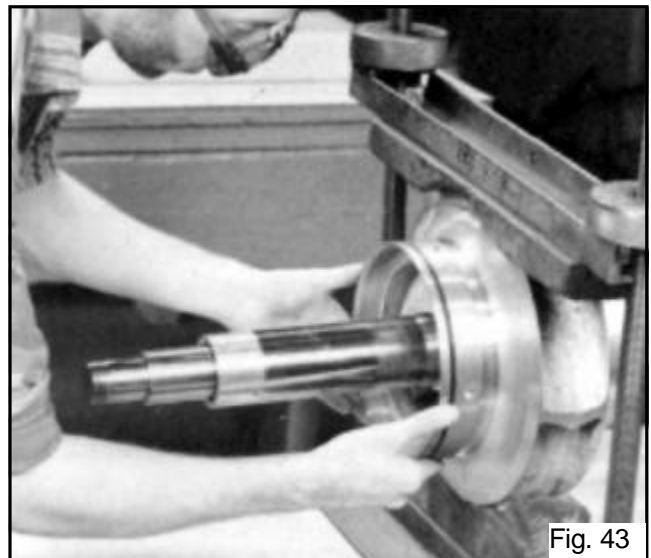

Fig. 43
11. Remove two casing rings (3-003-9) from the impeller (4-002-0) and remove O-rings (3-914-2) from each casing ring. (See Fig. 43)